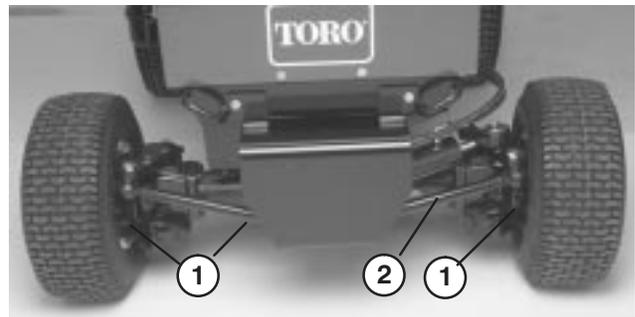

Figure 48
2. Clean area around the (3) drain plugs, (1) on each end and (1) in the center (Fig. 48).
2. Remove nuts securing one tie rod ball joint to mounting bracket on axle and disconnect ball joint from axle (Fig. 48).